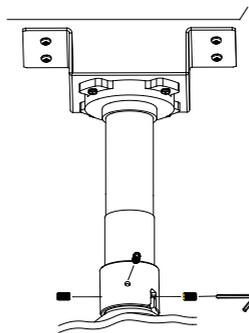

Figure 6
- (8) Pull out the cables and connect the main unit to the connector ring in the clockwise direction. Use hex driver to secure the stop screw to the connector ring and fasten the safety cable to the tube (Figure 6).